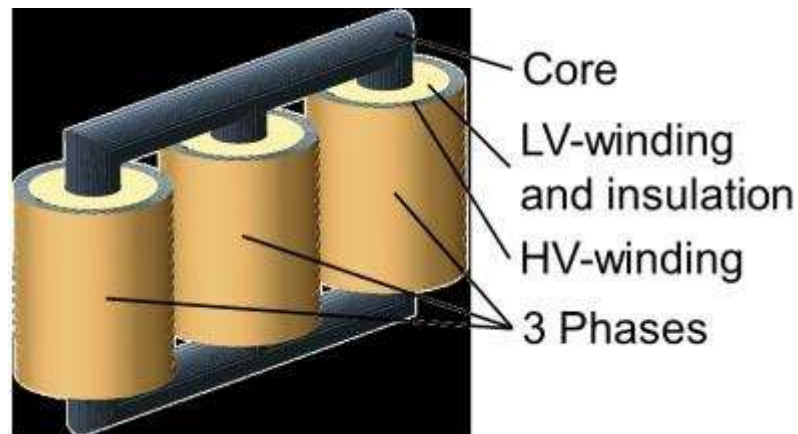

Figure 1.2. Three phase transformer winding details.
- 3) To get good performance with transformer, it should be used, primary winding is outer, secondary wiring is inner, like as Figure 1.2.